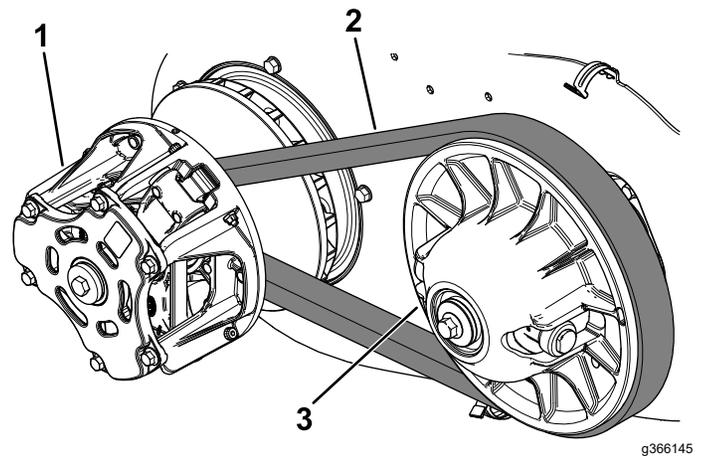

Figure 60
6. Rotate and inspect the belt (Figure 60) for signs of excessive wear or damage.
7. Using compressed air, clean the clutches thoroughly of all debris (Figure 60).
6. Pull up on the top of the belt to spread out the secondary clutch, then rotate and route the belt over the secondary clutch (Figure 60).
7. Remove the belt from the primary clutch (Figure 60).
8. Align the new belt over the primary clutch (Figure 60).
9. Rotate and route the belt over the secondary clutch (Figure 60).